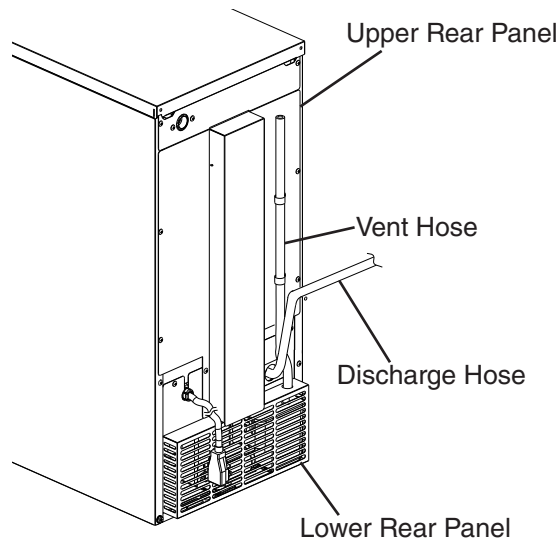

Fig. 7
- 7) Pour another 16 to 24 oz. (500 to 750 ml) of water into the icemaker's ice storage bin, then completely restrict the discharge hose while DP is operating. See Fig. 7. Pour more water into the icemaker's ice storage bin until the icemaker turns off. DP will continue to operate. Check for leaks.
- 2) Disconnect the vent hose from the upper rear panel. See Fig. 7.